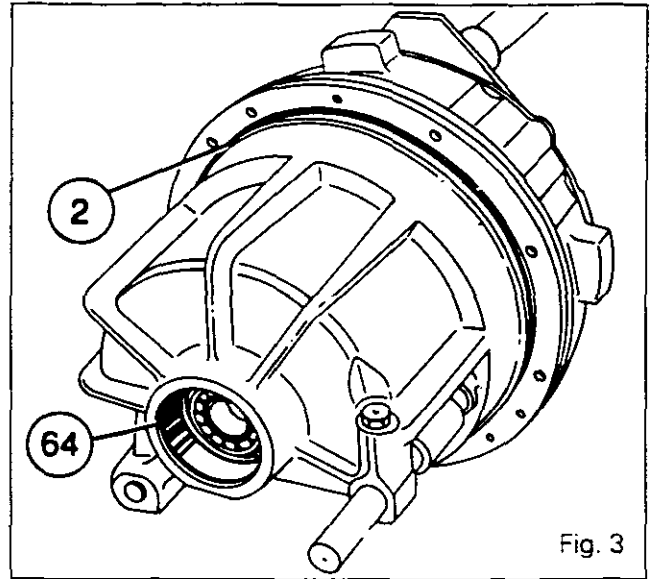

Fig. 3
9. Discard the O-rings (2) and (3). Recover the cup (64) and the locating pin (4) (Fig. 3 and 4).
10. On the input unit, check that the cup (64) O-ring (2) are in position (Fig. 3).